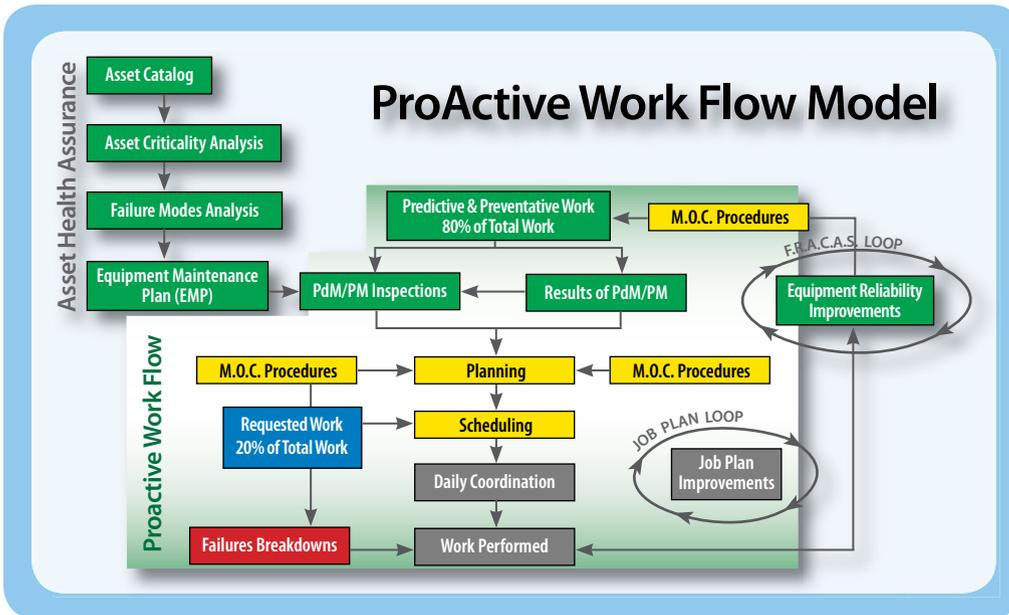

Figure 11 - ProActive Work Flow Model
Step 3 – Develop a master plan that focuses on results and moving an organization to having a balanced PM and PdM program using the Proactive Work Flow Model (Figure 11). In this plan you want financial targets and metrics to ensure you are receiving the benefits expected. You want short term results with long term gains. Note the Work Flow includes Management of Change (MOC) procedures to ensure consistency of processes and data. In addition, a process for a Failure Report Analy-